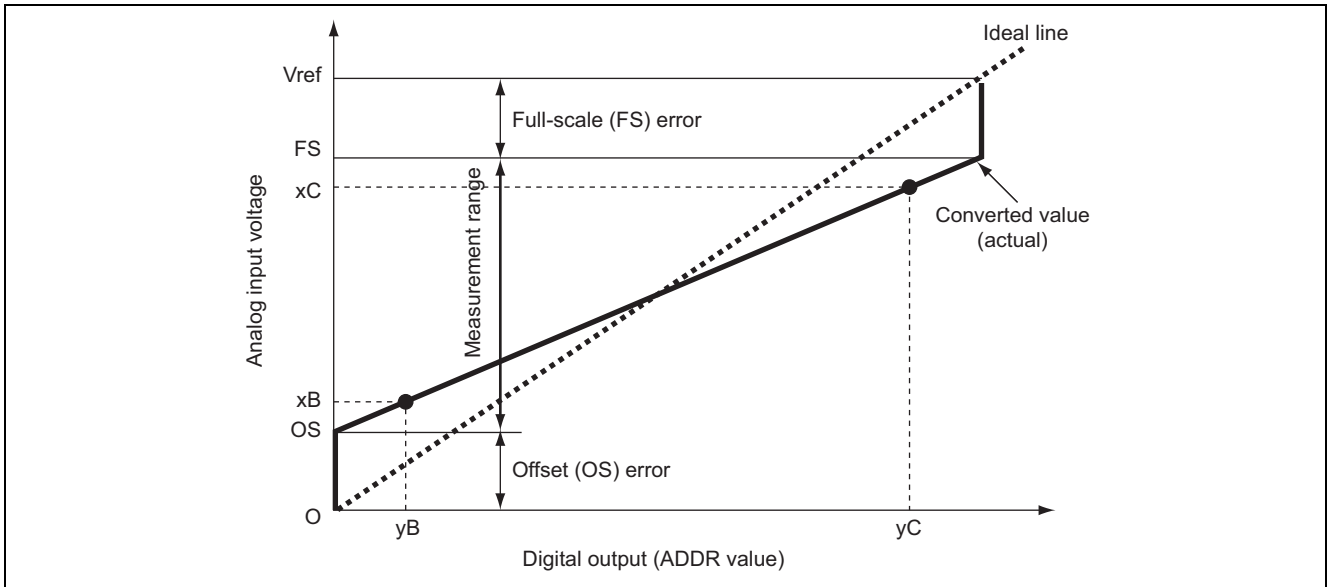

Figure 4.5 Relation of Analog Value (to be Measured) and Digital Value (ADDR Value)
Figure 4.5 shows the relation between digital values (ADDR values) and analog values (to be measured) of the $\Delta\Sigma$ A/D converter.
1. Determine x and y values at the four points A, B, C, and D shown in figure 4.5.